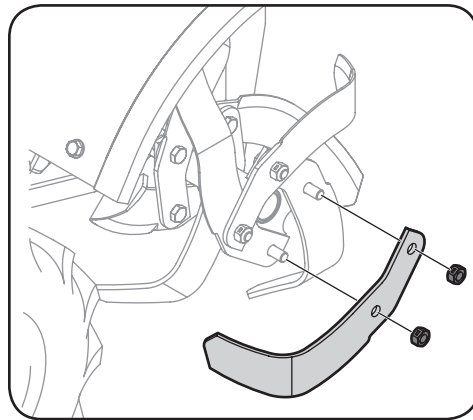

Figure 5-5
- Remove the two nuts that attach a single tine to the screws on the tine assembly. If needed, use penetrating oil to help free the nuts. See Figure 5-5.